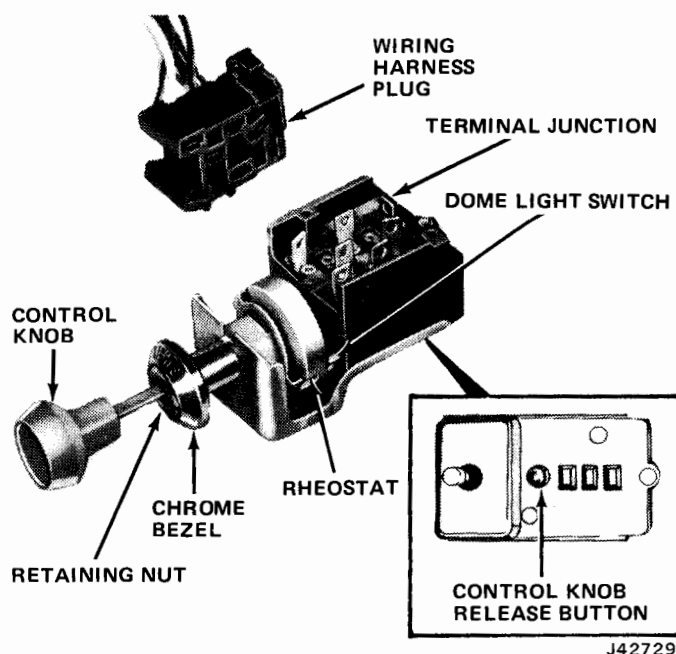

Fig. 3-74 Headlamp Switch
The switch is a two-position switch containing a rheostat for controlling instrument panel light brightness (fig. 3-74). Rotating the knob clockwise dims the panel lights. Rotating the knob fully counterclockwise turns on the dome and courtesy lamps.
(1) To remove switch, first disconnect wire connector plug from switch.
(2) Pull control knob out to second position.
(3) From behind instrument panel, depress knob release button (as shown in figure 3-74 inset) and pull knob out of switch.
(4) Remove retaining nut and bezel.
(5) Remove switch through rear of instrument panel.
(6) When replacing switch, make sure wire terminal plug on switch is tight on connections.